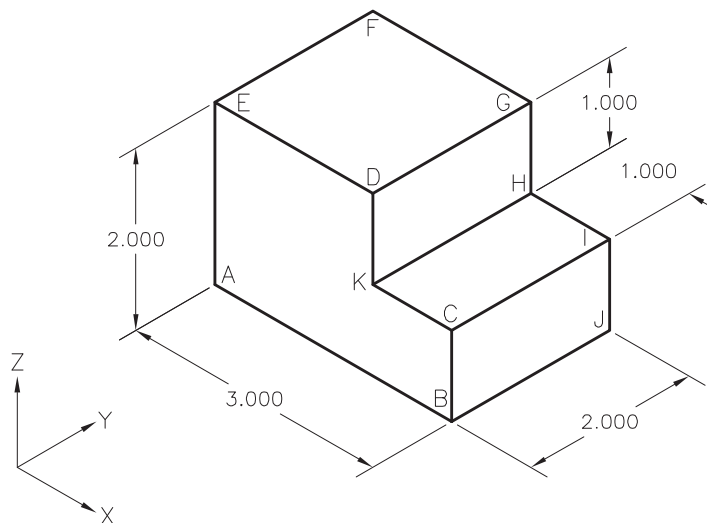

Fig. 39-10
2. Enter the  $x$ ,  $y$ , and  $z$  coordinate values for the alphabetically identified points in Fig. 39-10. To get you started, point **A** has coordinate values of **0,0,0**.